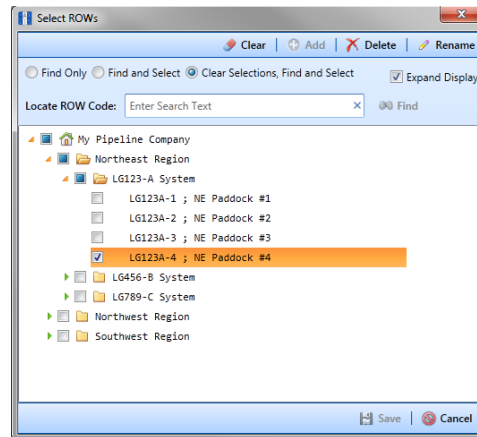

Figure 6-44. Select ROWs
- 1 Click the **Select ROWs** button  to open the *Select ROWs* window (Figure 6-44). Select the pipeline segment(s) with the facilities you want to work with, then click  **Save** to close the window.
- 1 Click the **Select ROWs** button  to open the *Select ROWs* window (Figure 6-44, page 213). Select the pipeline segment(s) with the facilities you want to work with, then click  **Save** to close the window.